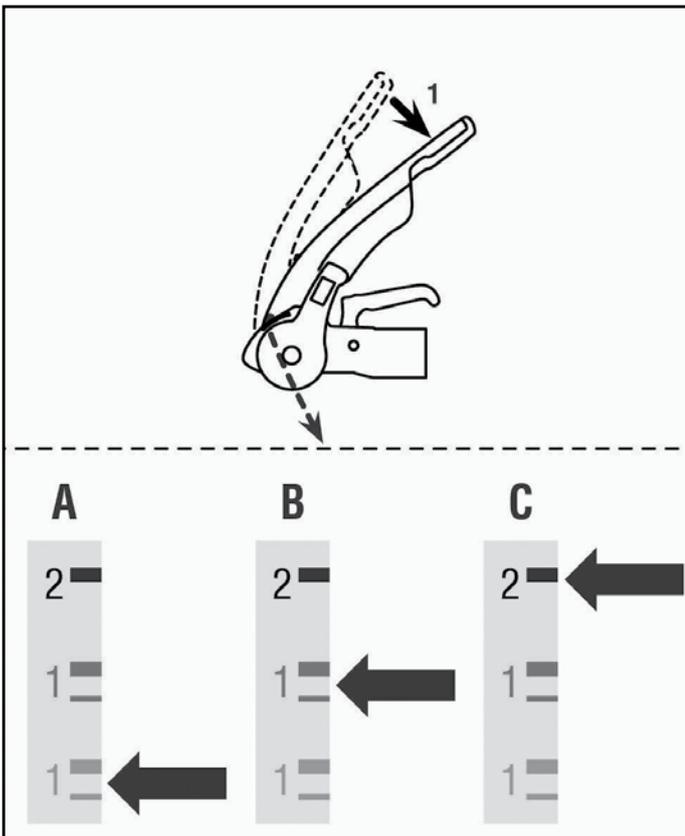

Fig 5.
2. Push the stabiliser lever (fig 5/item 1) down until resistance is felt (i.e. the friction pads are in contact with the ball but not yet under pressure.)
3. Check the position of the arrowhead on the arm of the stabiliser. If it lines up with the two green lines then the friction pads are still as new (Fig 5/A)
If the arrowhead lines up with the two red lines then the friction pads are worn and should be replaced immediately (Fig 5/A)
When the stabiliser lever is correctly applied, the arrowhead should line up with the black line marked 2 (Fig 5/C)